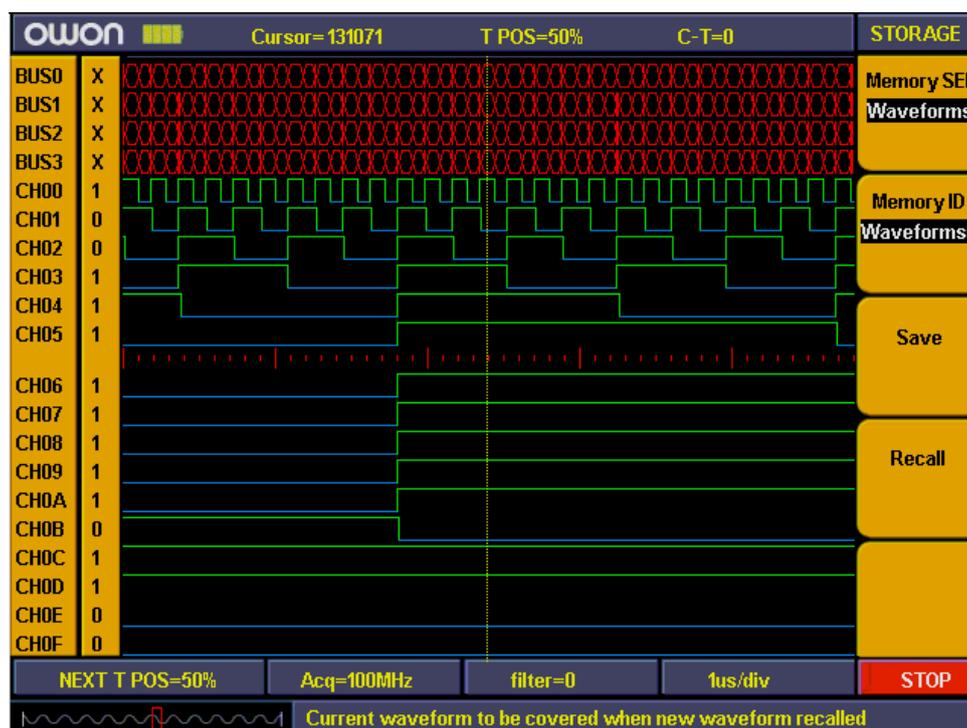

Fig.5-74: Waveform saving
8. Press “**F4**” to recall the memory waveform or settings (refer to Fig.5-74)